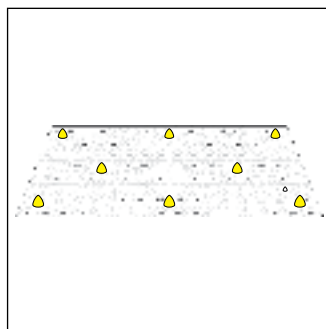

Figure 26
- **Note:** Use at least 8 bumpers per light sheet or 6 per square foot. Apply bumpers evenly across the light sheet installation (figure 26).